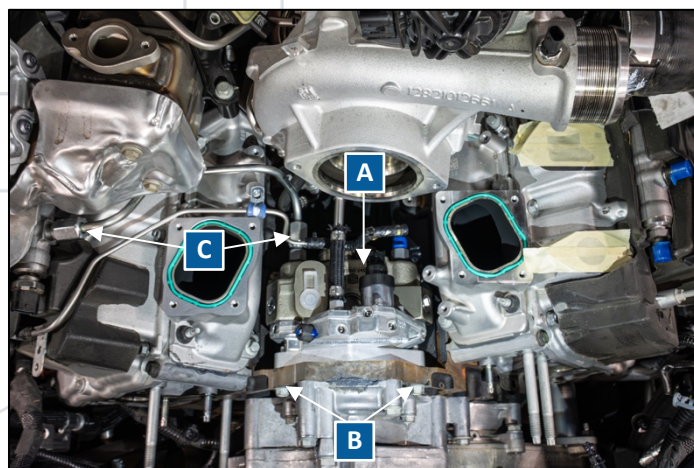

Figure 30: S&S CP3 in the Valley
3. **Place CP3 into valley and slide into place with IMV facing upwards (labeled as A in Figure 30).**
4. **Secure pump with 13mm hex head bolts x4 (labeled as B in Figure 30).**
5. **Install supplied HP line from pump to passenger rail, 19mm wrench (labeled as C in Figure 30).**